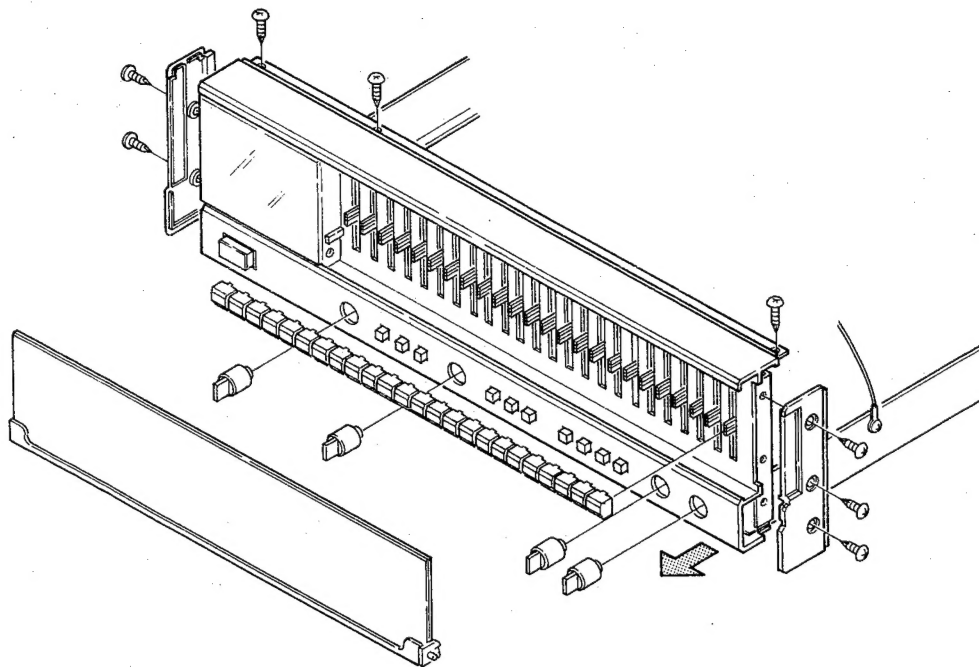

Fig. 7
3. How to Remove the Front Panel (Fig. 7)